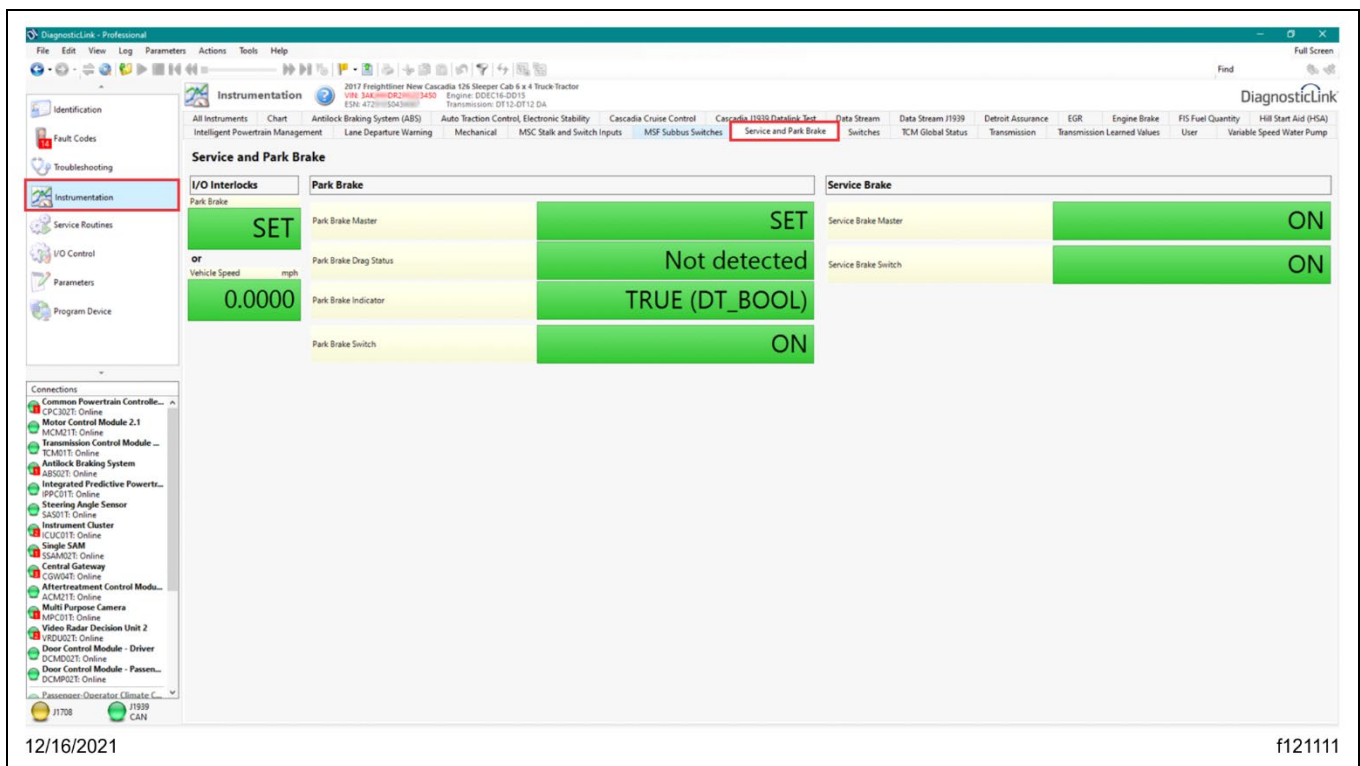
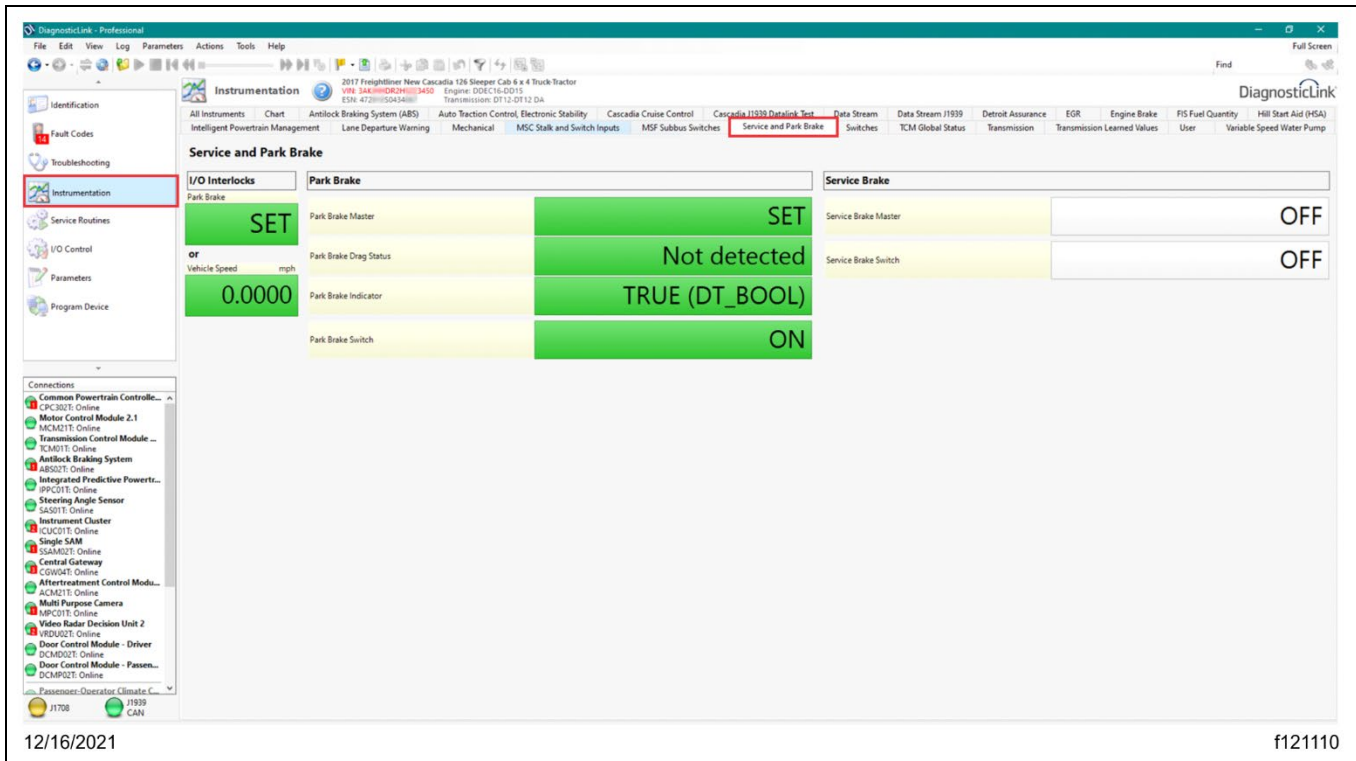

Fig. 6, Service Brake Panel Status When the Brake Pedal is Pressed
Fig. 7, Service and Park Brake Panel Status in Normal State
- Allow time for DiagnosticLink to connect to the sSAM ECU. Go to the 'Instrumentation' tab, then select the 'Service and Park Brake' tab. See Fig. 7.
The 'Service Brake' panel status should show both 'OFF' in normal state when brakes are not applied, as shown in Fig. 7, and show as 'ON' when the brake foot pedal is pressed, or if so equipped, when the trailer hand valve is pulled. See Fig. 6. A slight delay between status of 'OFF' and 'ON' is normal.